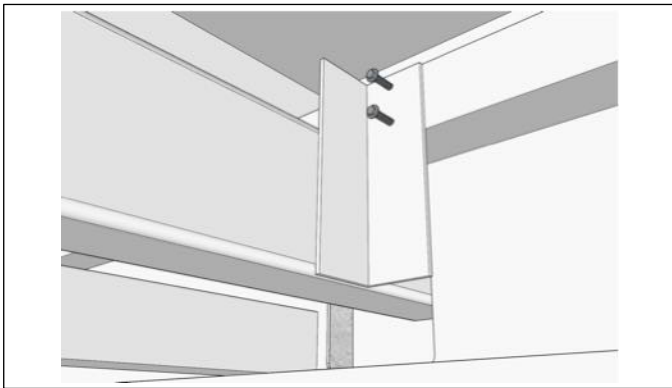

Fig 10
7. Attach connecting bracket to the canopy as shown in (Fig 10) using supplied Tek screws.